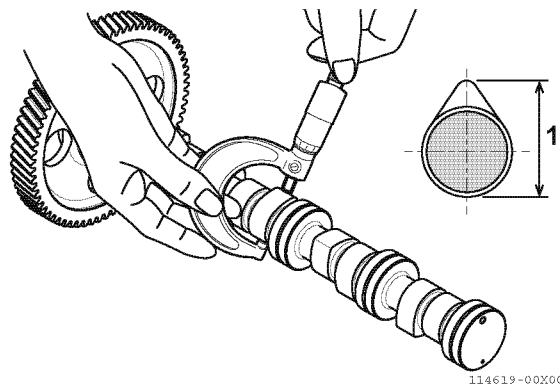

Fig.11-5
- 2 - Measure the height of each cam lobe (1, Fig.11-5) using a micrometer. For standard values, see 0000-07-01-02 "Camshaft".